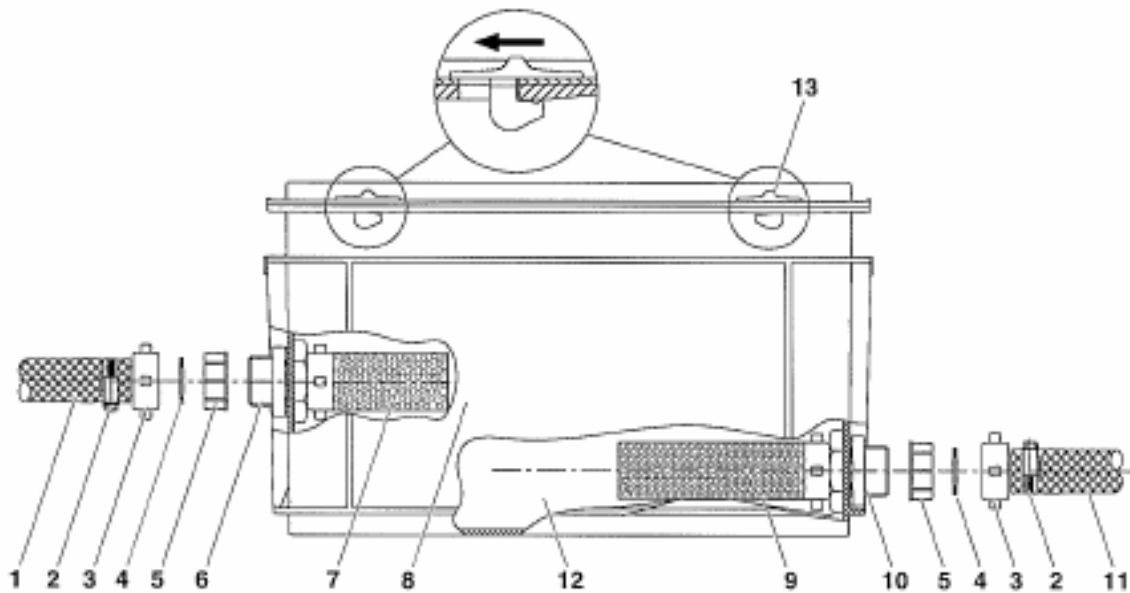
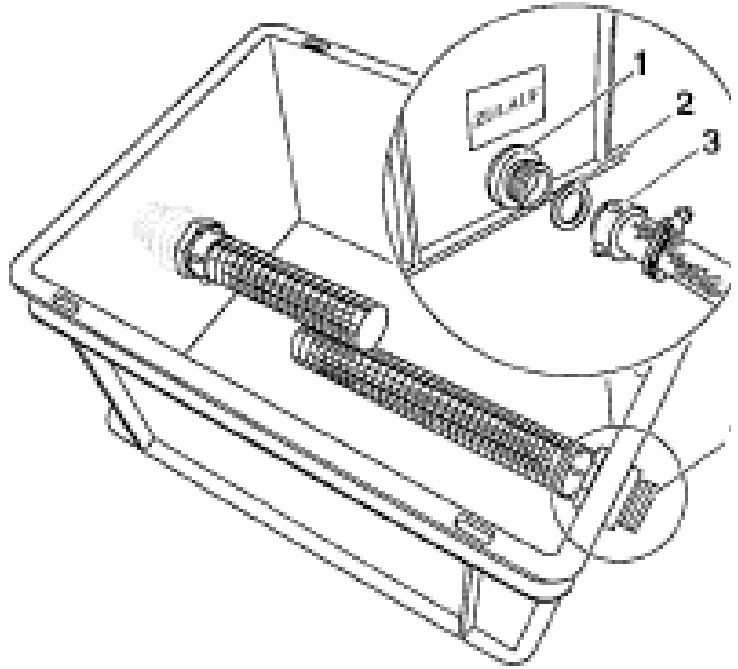

Fig 1. Neutralization Kit
Fig. 3 Assembly of Hose
- Remove yellow covers (Fig. 1, item 5, page 3) from threaded connections.
- Shorten intake hose (Fig. 1, item 11, page 3) to desired length and mount components in order shown (Fig. 3, item 2 and 3).
- Shorten the pre-mounted discharge hose (Fig. 1, item 1, page 3) to desired length and secure.
The end of the discharge hose must be readily visible (Fig. 1, item 1, page 3) so that one can check the proper functioning of the neutralization kit.
- Clean neutralization box (Fig. 1, item 8, page 3).